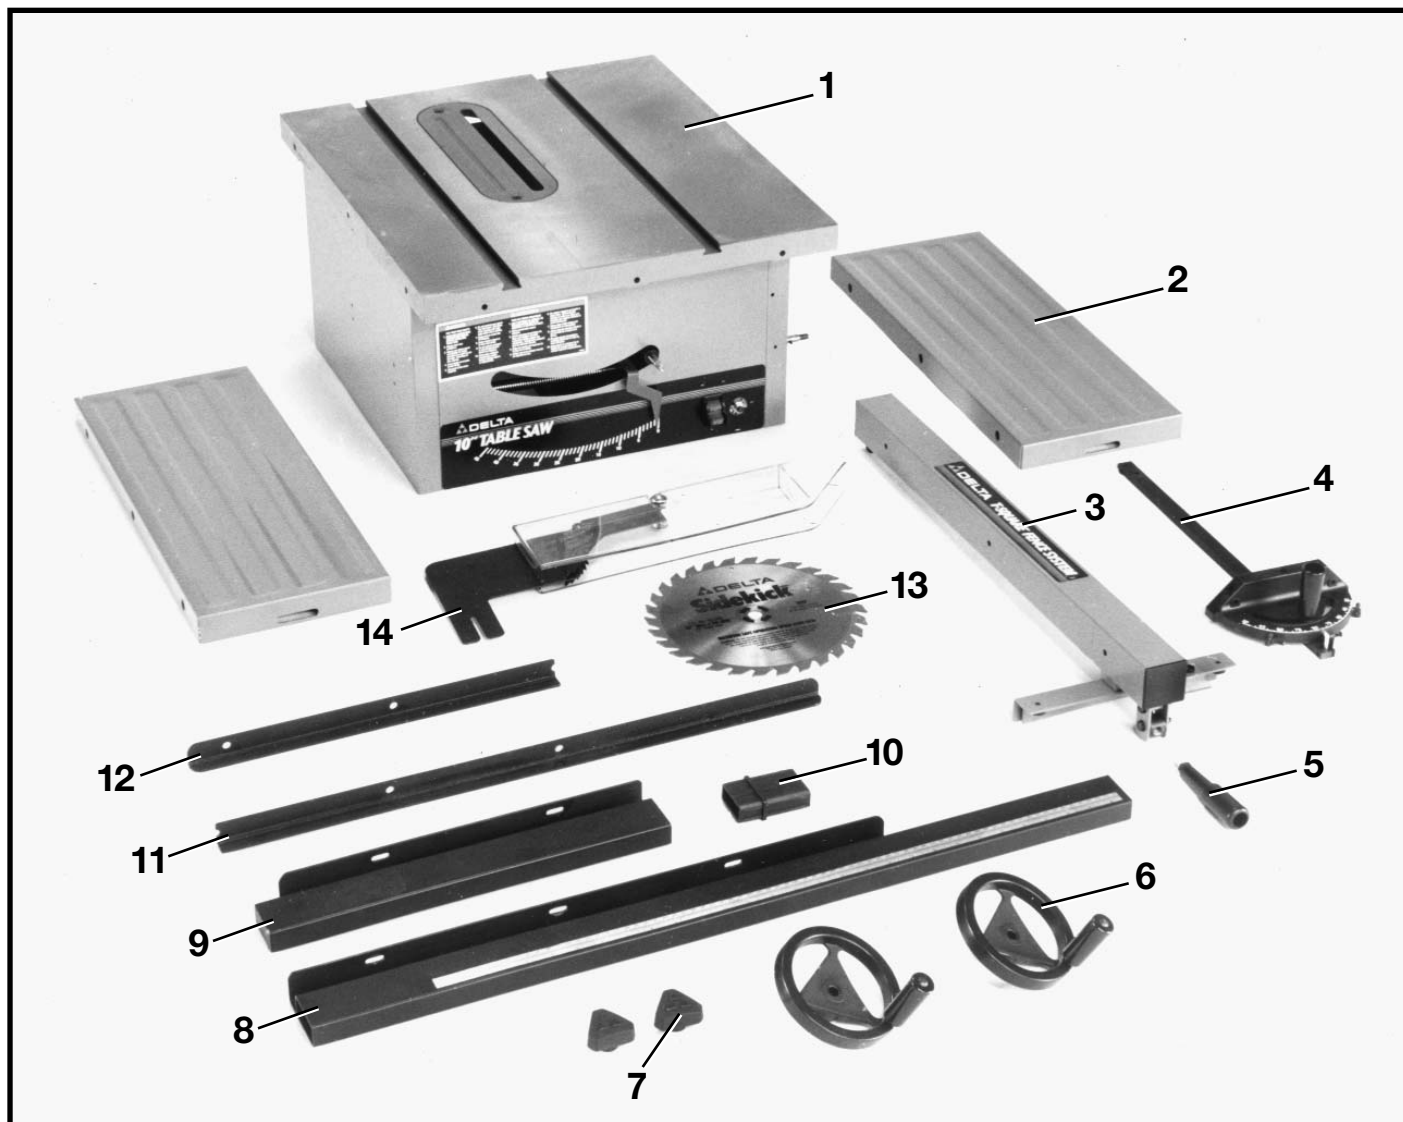
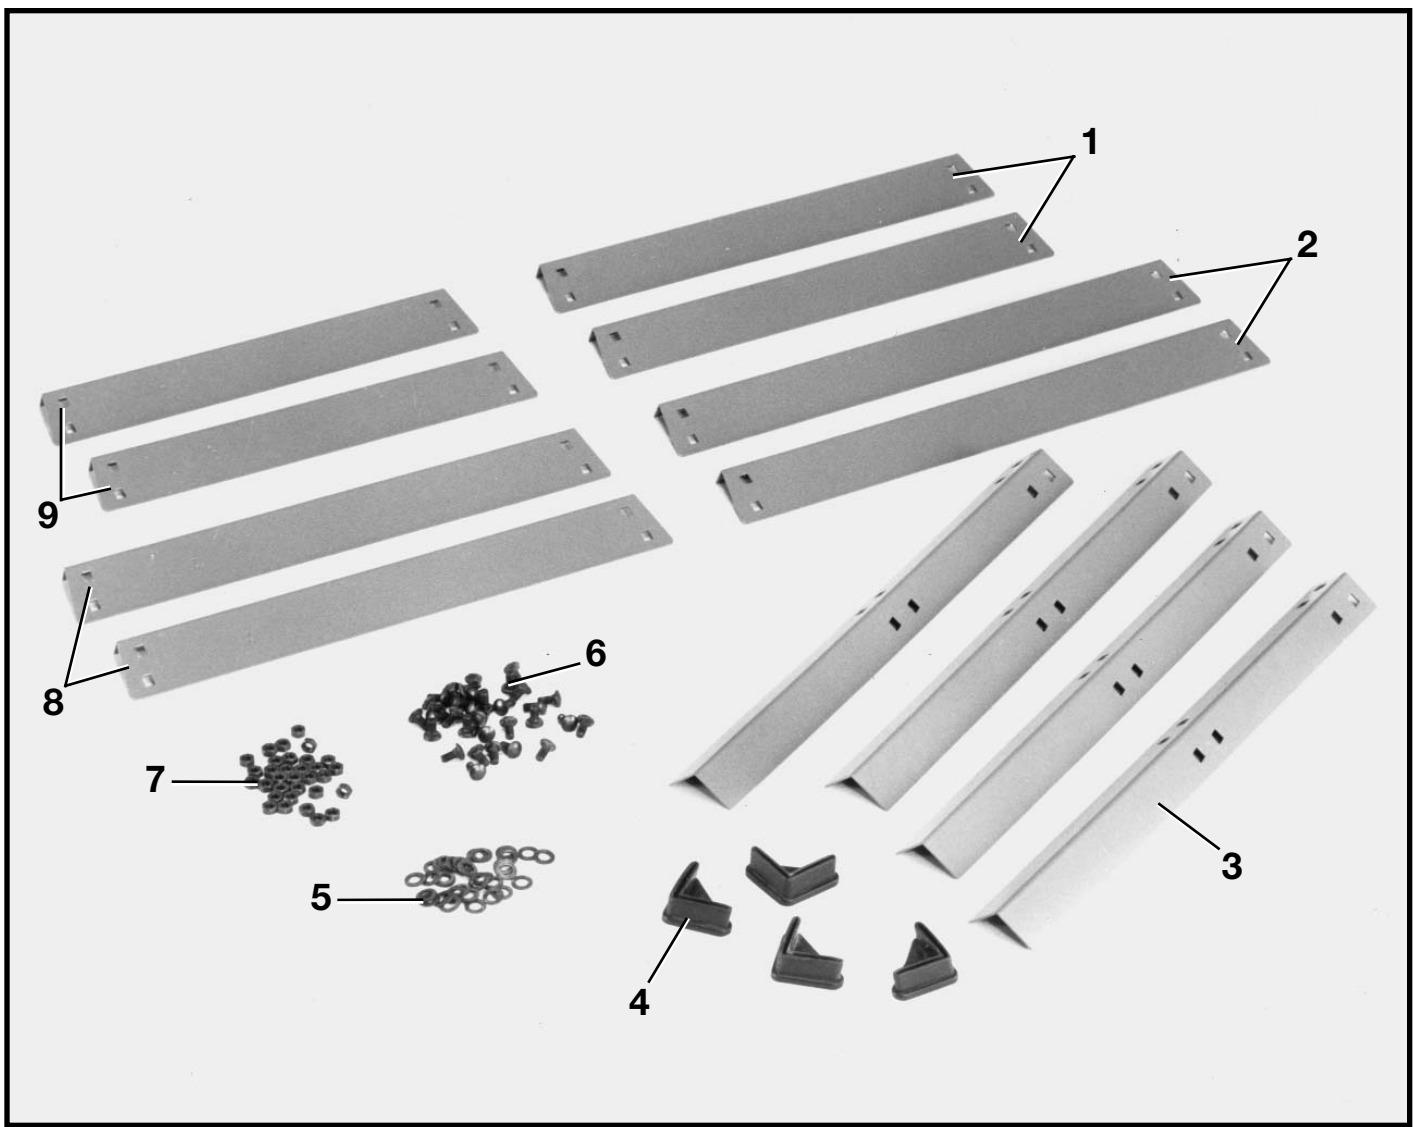
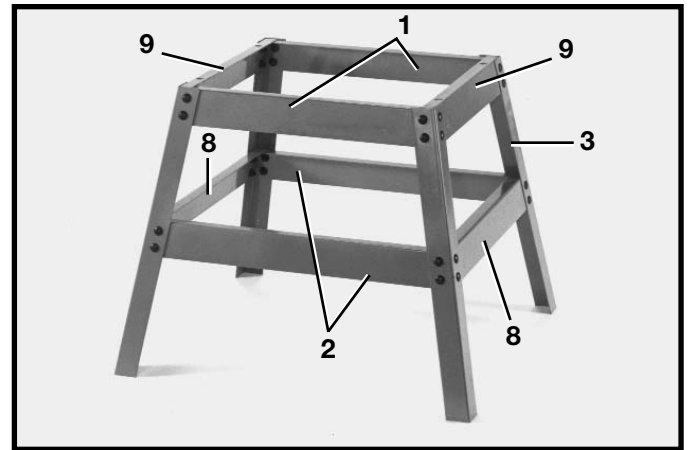

Fig. 1
Fig. 3
Fig. 4
Carefully unpack the tool, stand and all loose items from the carton. Remove the protective coating from the saw table surface. This coating may be removed with a soft cloth moistened with kerosene (do not use acetone, gasoline or lacquer thinner for this purpose). After cleaning, cover the table surface with a good quality household floor paste wax. Figs. 1 and 2 illustrate the components and hardware for the table saw. Fig. 3 illustrates the components of the stand.
1. Assemble stand as shown in Fig. 4 and 5 using parts shown in Fig. 3. The braces, legs and feet are labeled the same in all three illustrations. Insert screws through legs and braces then place washer on screw and secure with nut. Only tighten nuts finger-tight at this time. **NOTE:** The top lips of the two top side braces (A) must fit on top of the top lips of the front and rear braces (B). The side braces (A) have holes on top for mounting the saw to the stand. Only tighten hex nuts finger-tight at this time.